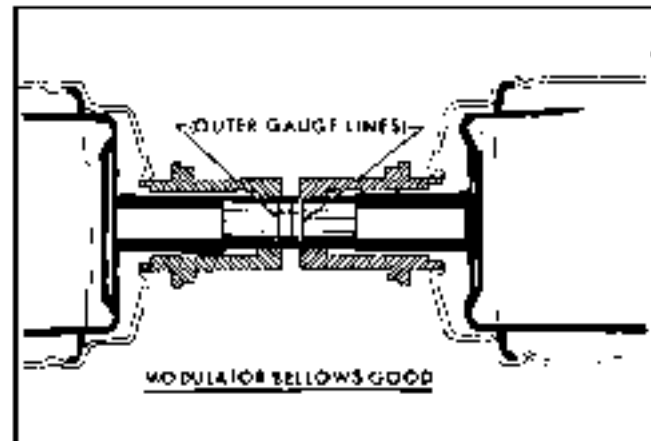

Fig. 7E-127 Modulator Bellows Good
d. The gap between the opposite modulator sleeve ends and gauge line should be $1/16$ " or less (Fig. 7E-127). If gap is greater than $1/16$ ", the modulator in question should be replaced (Fig. 7E-128).